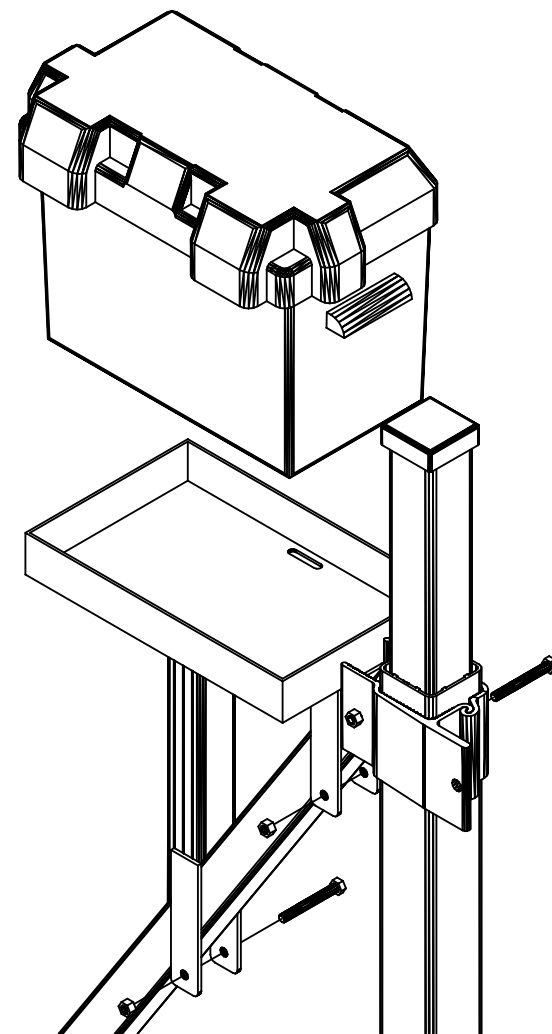

Fig. 1
Slide the battery tray assembly over the v-brace attached to winch post. Position the battery tray assembly close to the winch post to insure adequate power cable length. Insert the (2) HHCS 3/8-16 x 3" with (2) 3/8-16 nylock nuts through the holes in the battery tray support legs and torque to 25 ft/lbs. See Fig. 1.